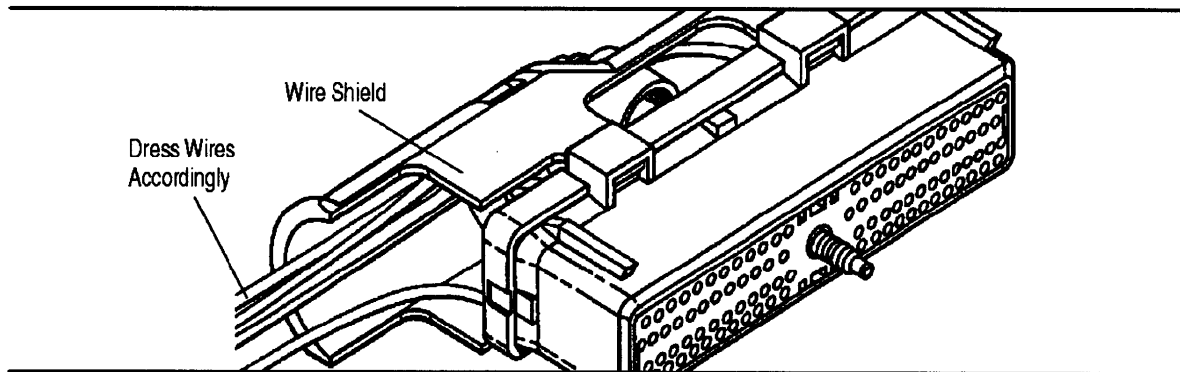

Figure 4
4. Assemble wire shield and dress wires as shown in Figure 4.